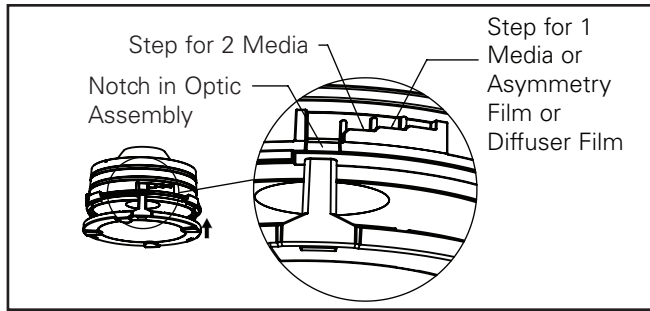

Figure 18
4. Insert media assembly by aligning the media holder tab with the notch in the optic assembly. (Figure 18)